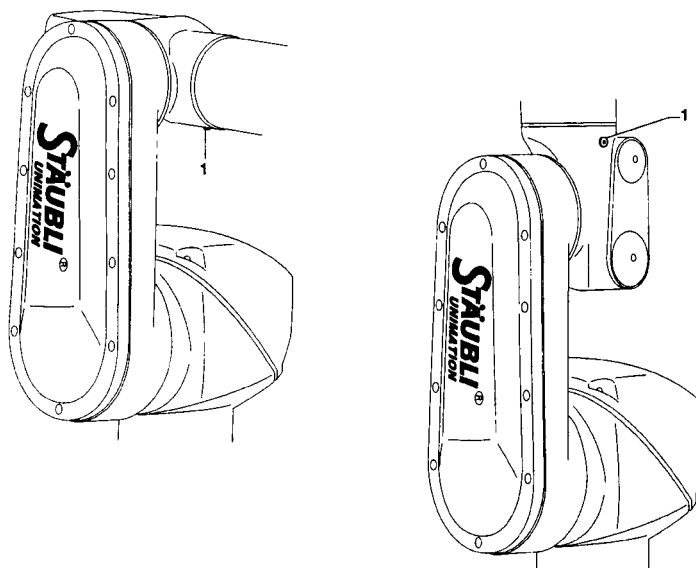

Figure 5.3
5.1.4. JOINT 4 TRANSMISSION CASING (figure 5.3)